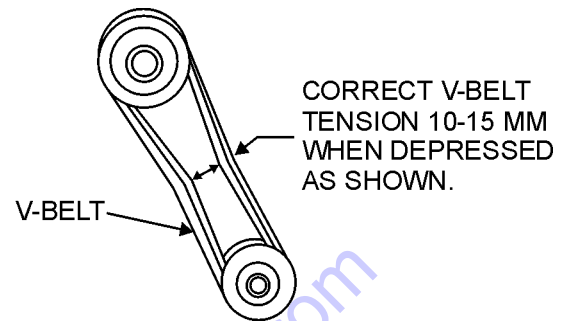

Figure 9. V-Belt Tension
2. The V-belt tension is proper if the V-belt bends 10 to 15 mm (Figure 9) when depressed with finger midway between the clutch and vibrator pulley shafts.
3. Place the fuel valve lever (Figure 9) in the **OFF** position.